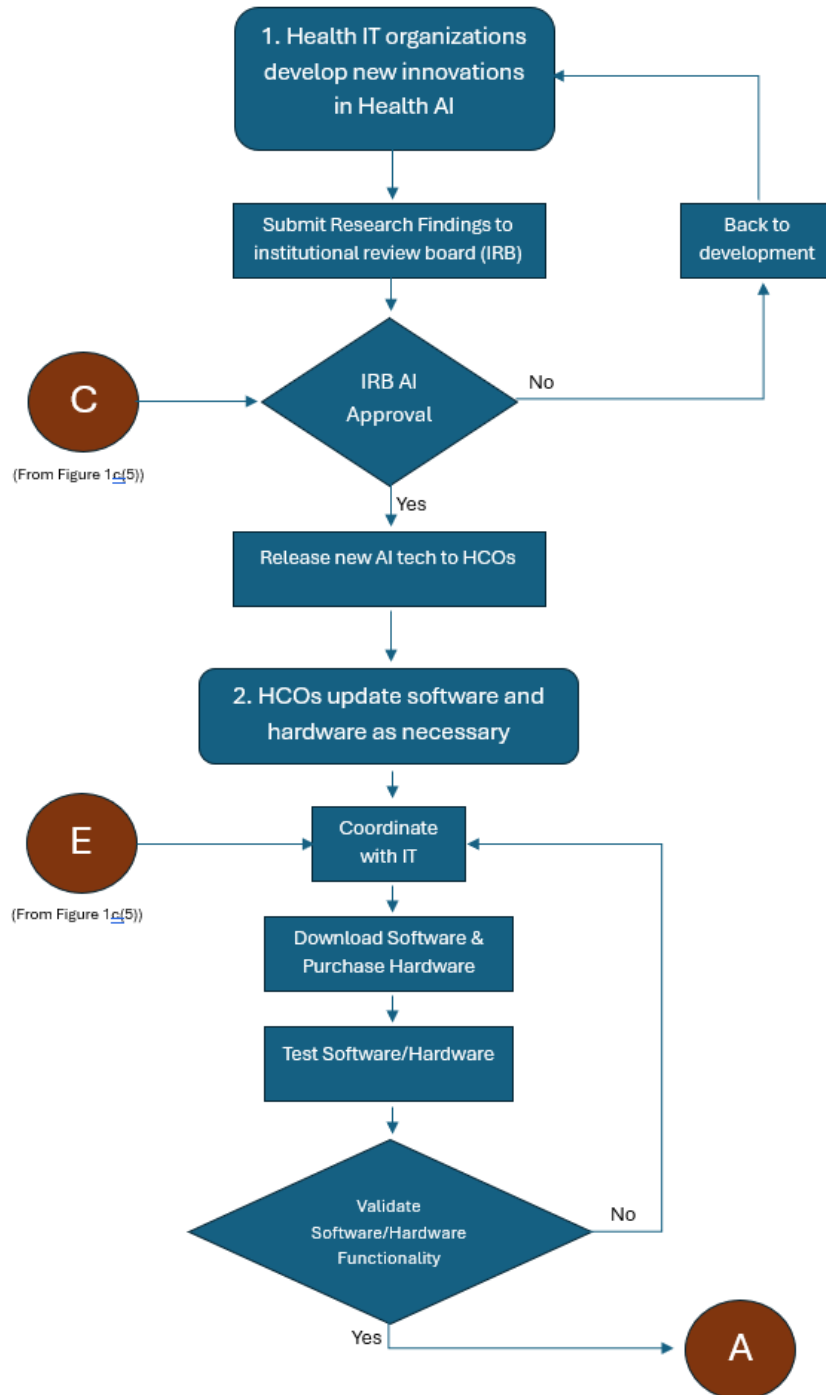

Figure A2
3. Once software and hardware functionalities have been validated, healthcare organizations can implement these new tools in patient care settings. See Figure A2(3) for a detailed overview of the process and Table A3 for further analysis.
4. Healthcare organizations and the governance program must begin monitoring the tool for quality and reliability. See Figure A2(4) for a detailed overview of the process and Table A4 for further analysis.